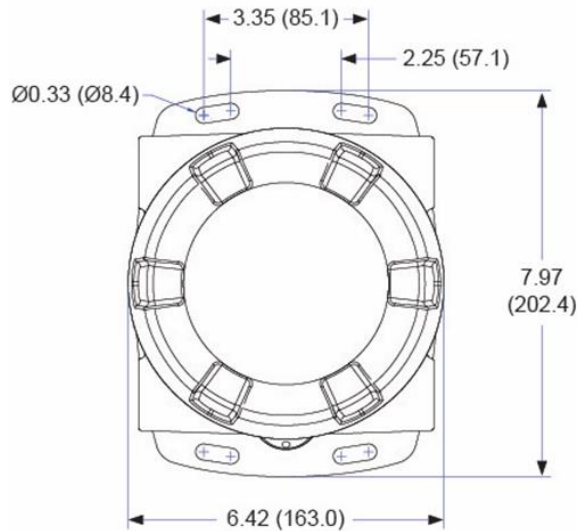
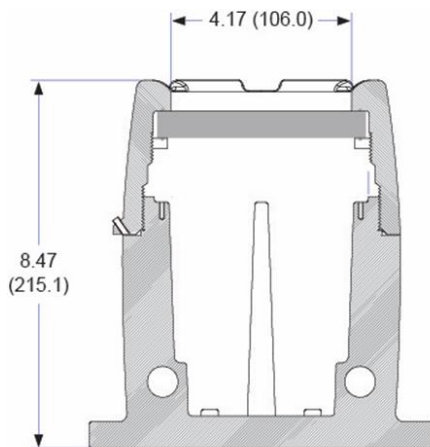

Figure 1. Enclosure Dimensions – Front View
Figure 2. Enclosure Dimensions – Side Cross Section View
The ProtEX-MAX has four slotted mounting flanges that may be used for pipe mounting or wall mounting. Refer to *Figure 1* and *Figure 2* below.
- Prepare a section of wall approximately 7" x 8.5" (178 mm x 216 mm) for scanner mounting by marking with a pencil the mounting holes (shown in *Figure 1*) on the wall.
- Select the appropriate mounting screws for the mounting surface to be used. The mounting holes diameter is shown on *Figure 1*.